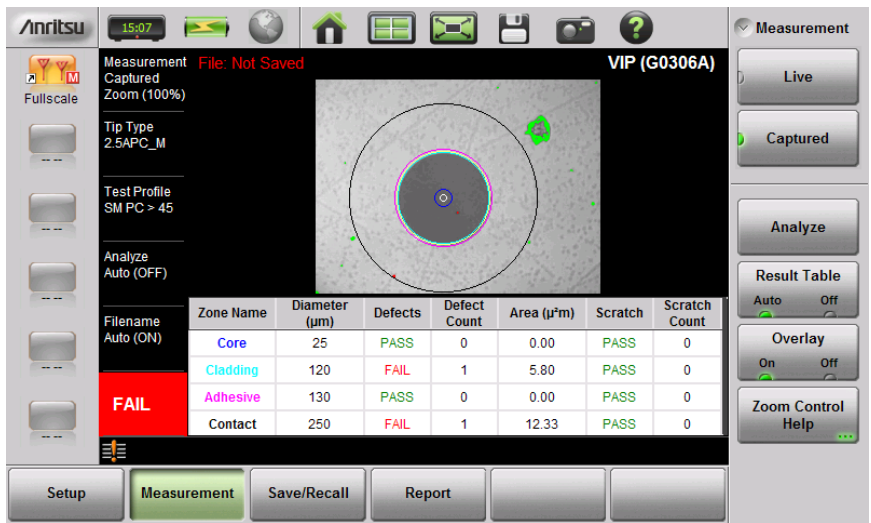

Figure 14-6. VIP Image Captured and Analyzed
- 6. Press the Results Table submenu key to show or hide the detailed analysis results. See Figure 14-6. For each of the analysis areas, or zones (core, cladding, adhesive, contact), the table shows the count of scratches and contaminations or defects, and their Pass/Fail evaluation results. The table will not appear if there are no analysis results to display.